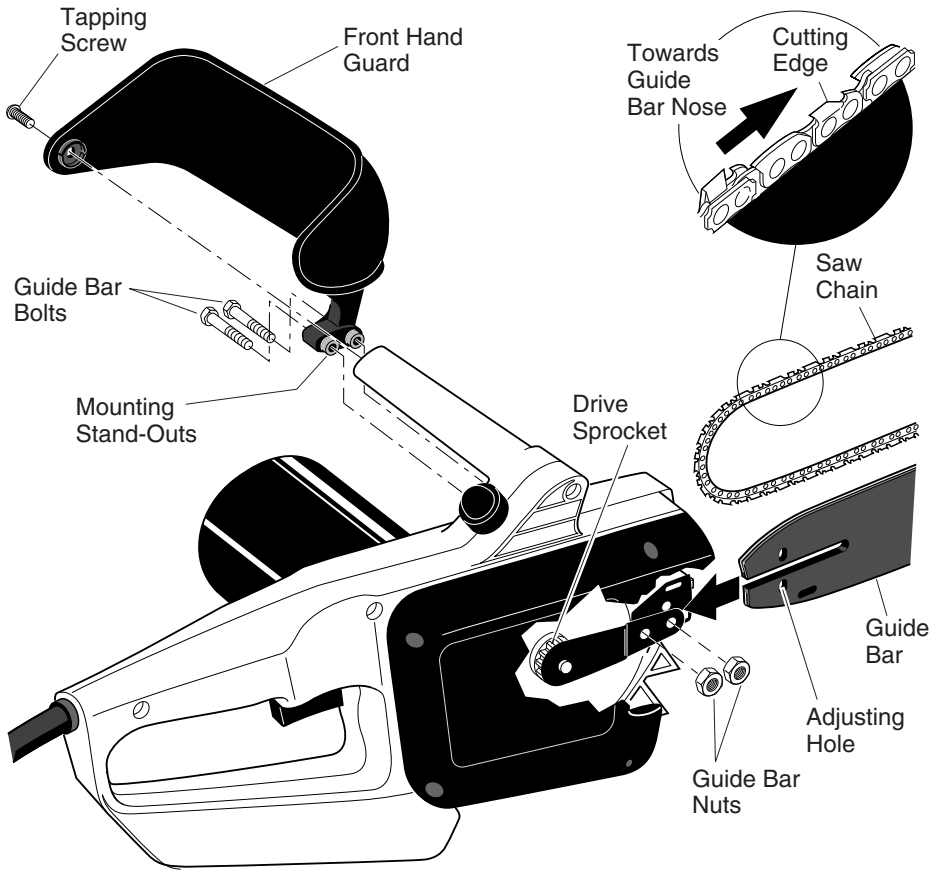

Figure 3 - Assembling Guide Bar, Chain, and Hand Guard
2. Install front hand guard onto saw body. Do this by pressing two mounting stand-outs on hand guard into hex-shaped holes in saw body (see Figure 3, page 7).
8. Place chain around drive sprocket, then along top groove of guide bar and around guide bar nose. *Note:* Make sure cutting edges of chain are facing the right direction. Position chain so cutting edges on top of guide bar face guide bar nose (see Figure 3, page 7).
1. Before adjusting chain, make sure guide bar nuts are only finger tight (see Figure 3, page 7). Also make sure adjusting block is in oval adjusting hole on guide bar (see Figures 3 and 4, page 7).